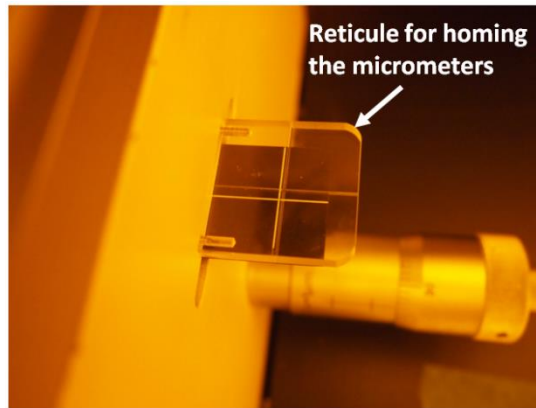

Figure 6 Reticule used for homing the positioning micrometers.
- Home (center) the x, y, and θ micrometers using the reticule. This is found on the right side of the alignment stage (**Figure 6**).